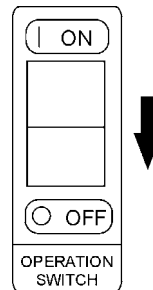

Figure 23. Generator Operation Switch (Off)
4. To shut-down the engine, place the generator's operation switch (Figure 23) in the **OFF** position.